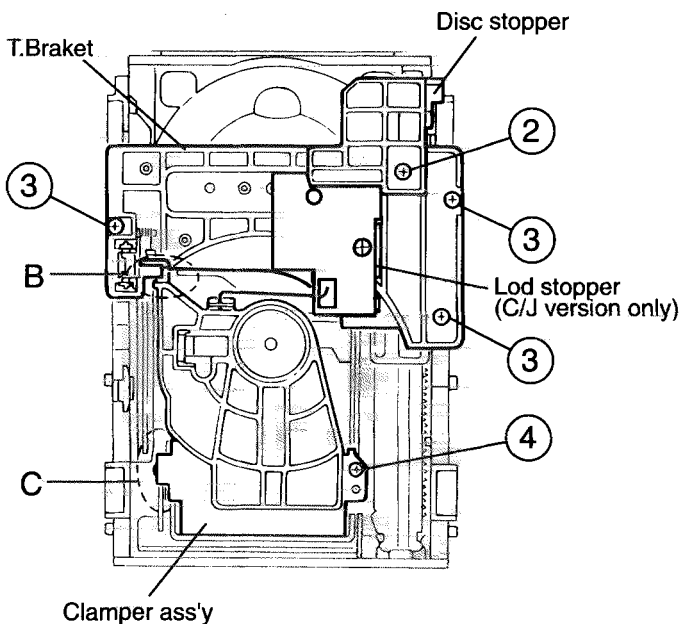

Fig.3
4. Remove the screw 2 retaining the Disc stopper (See Fig.3).
5. Remove the three screws 3 retaining the T.bracket (See Fig.3).
7. Remove the screw 4 retaining the clamber assembly (See Fig.3).